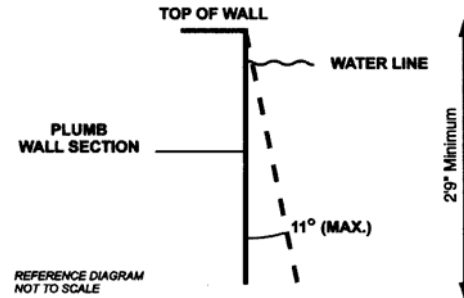

Figure 1- Maximum allowable wall slope
Refer to Fig. 1
BE SURE CONCRETE DECK SURROUNDING ANCHOR JIG COMPLIES WITH MINIMUM DIMENSIONS AS SHOWN IN FIG. 1 FOR POOL TYPE AND BOARD TO BE USED.
3. Make sure bolts project out of the concrete 1-1/2" with ample concrete depth below jig. Refer to Fig. 1 for minimum deck thickness, width and length.
5.3.1 Walls in the shallow area and deep area of the pool shall not slope greater than 11° (1:5 slope ratio) to a transition point. The transition point shall not be less than 2 feet and 9 inches (83.8 cm) below the waterline. See figure 1.